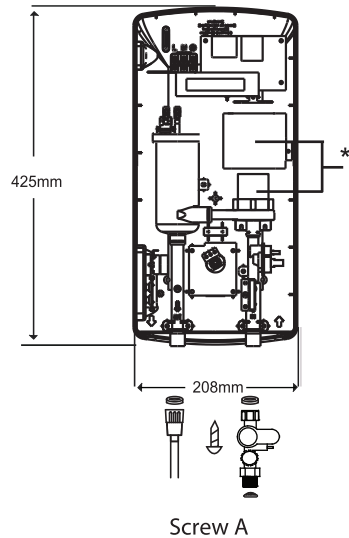

Fig. 3
- Pull the temperature control knob and remove screw A (Fig 3) at the bottom of the product.